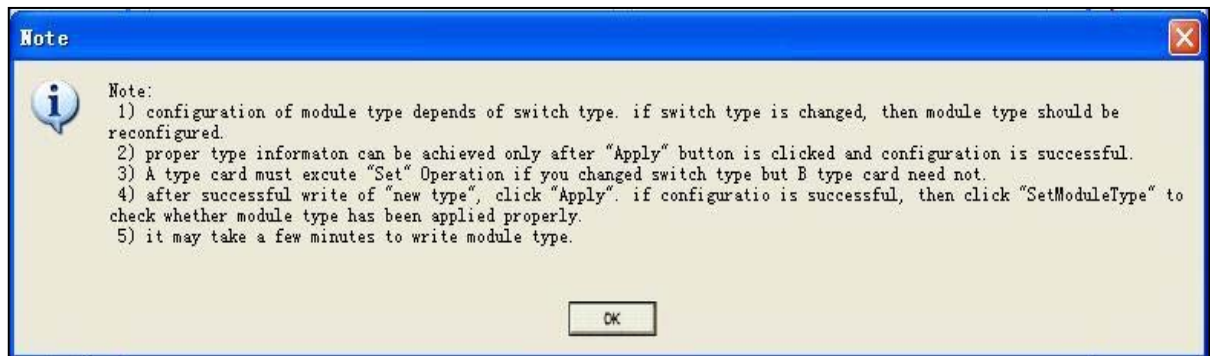

Figure 3-3
Step 3 : Now there pops up the dialog 'Note' as shown in Figure 3-3. Click the button 'OK' to enter the dialog box 'SetMooduleType'.